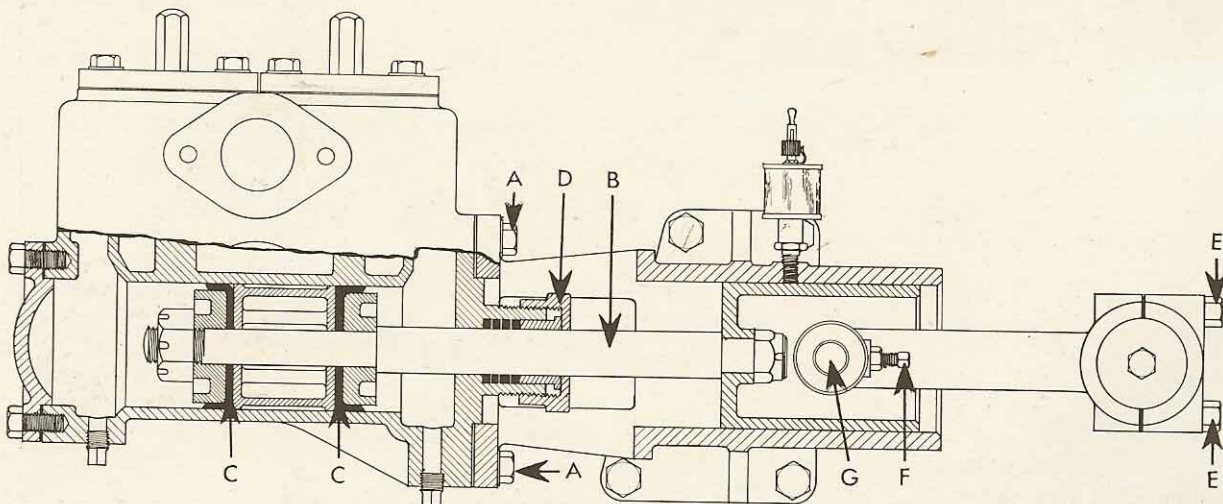

FIGURE 22-2
4. REMOVAL OF THE PISTON: Remove the locking wire and the two cap screws (E), Figure 22-2, and DO NOT LOSE THE SHIMS. Remove the packing gland nut (D) and dig out all the old packing. Remove the pump cylinder head and the rod, piston and crosshead can be pushed through far enough to remove the large nut on the end of the rod. The piston and leathers can now be removed. Take out the four cap screws (A), Figure 22-2, and the pump body can be set aside.